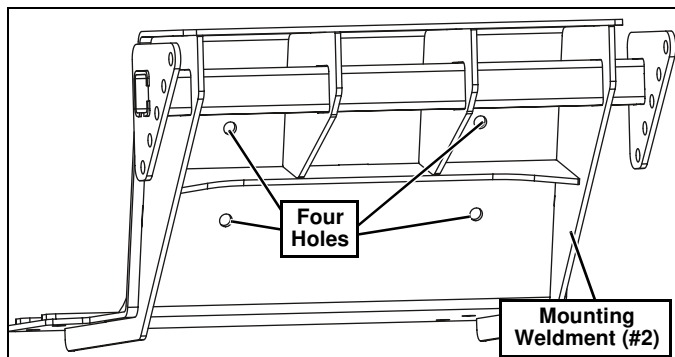
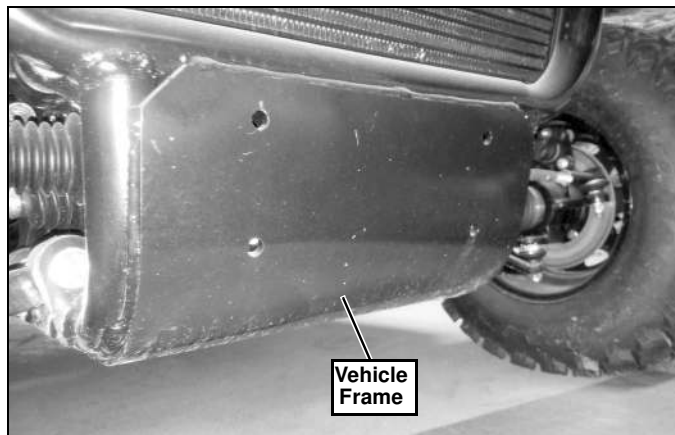

Figure 1
Figure 2
1. Place the Mounting Weldment (#2) up to the vehicle frame, aligning the four holes together. Secure with (4) 3/8"-16 x 1" Cap Screws (#3) and (4) 3/8"-16 Locknuts (#4). (See Figure 1 and Figure 2.)